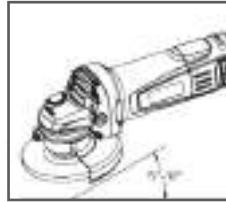

Fig 7
2.Generally speaking, please keep the grinding and cutting part of the wheel and disc in the scope of 15 to 30 degree with the surface of processing object. (Fig 7)